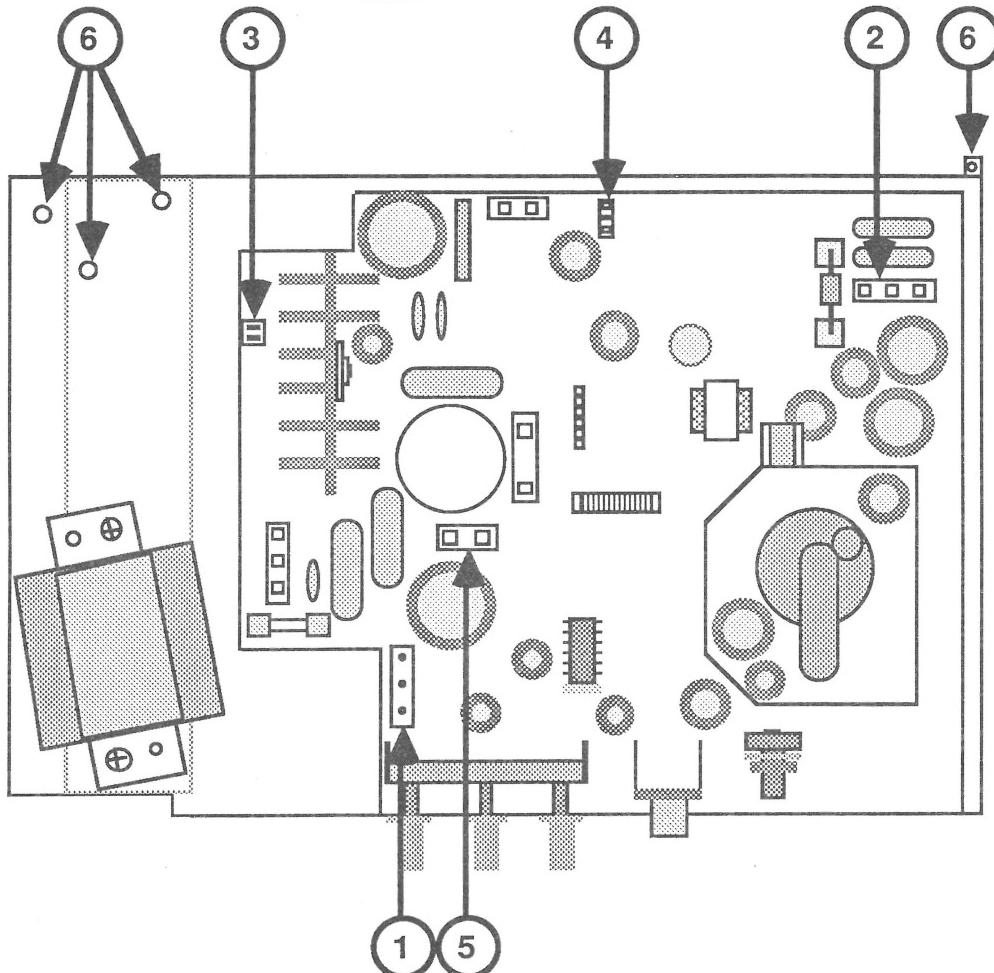

FIGURE 8
4. Reconnect the green/yellow yoke wire (P3) at J3 (Figure 8, #1).
5. Connect the red/blue yoke wire (P4) at J4 (Figure 8, #2).
6. Connect the LED wire at J5 (Figure 8, #3).
7. Connect the contrast control cable at J8 (Figure 8, #4).
8. Connect the orange on-off control wire to J7 (Figure 8, #5).
10. Fasten the four screws holding the logic board assembly to the CRT mounting plate (Figure 8, #6).